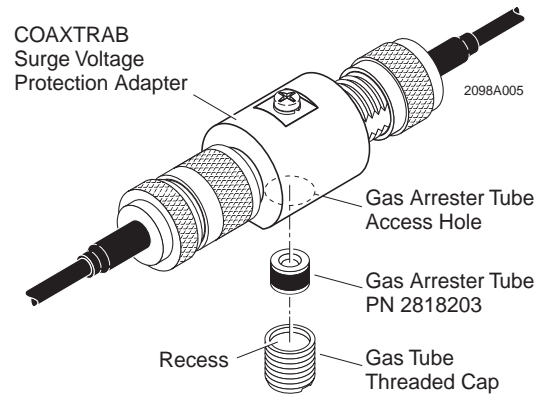

Figure 13. CN-UB280DC Gas Arrester Replacement
- Using a blade type screwdriver remove the threaded cap from the adapter housing. See Figure 13. Then remove and discard the gas arrester tube from the housing.
If you experience a problem installing the gas arrester tube, remove the COAXTRAB adapter from the system. Then position the adapter as shown in Figure 13 and install the gas arrester tube.